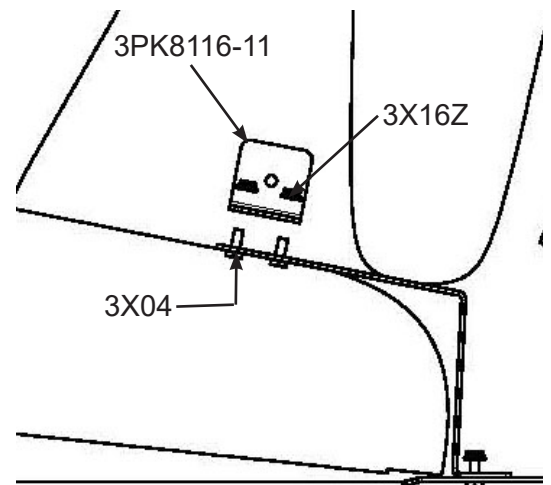

Fig. 13
- E. Insert 2 bolts (3X04) under seat bracket just installed, place angle bracket (3PK8116-11) over bolts and assemble with whiz nuts (3X16Z) (Fig. 13)